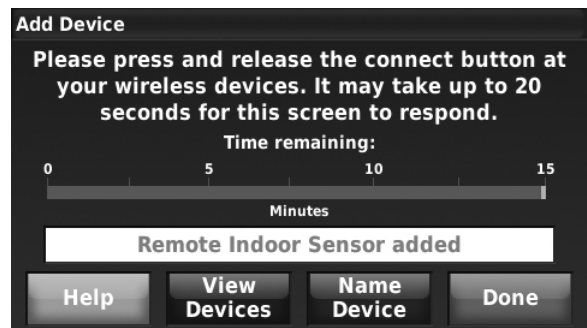

Fig. 50.
2. If you are installing more than 1 wireless indoor sensor, give each sensor a name as you install it. Press Name Device, as shown in Fig. 50.